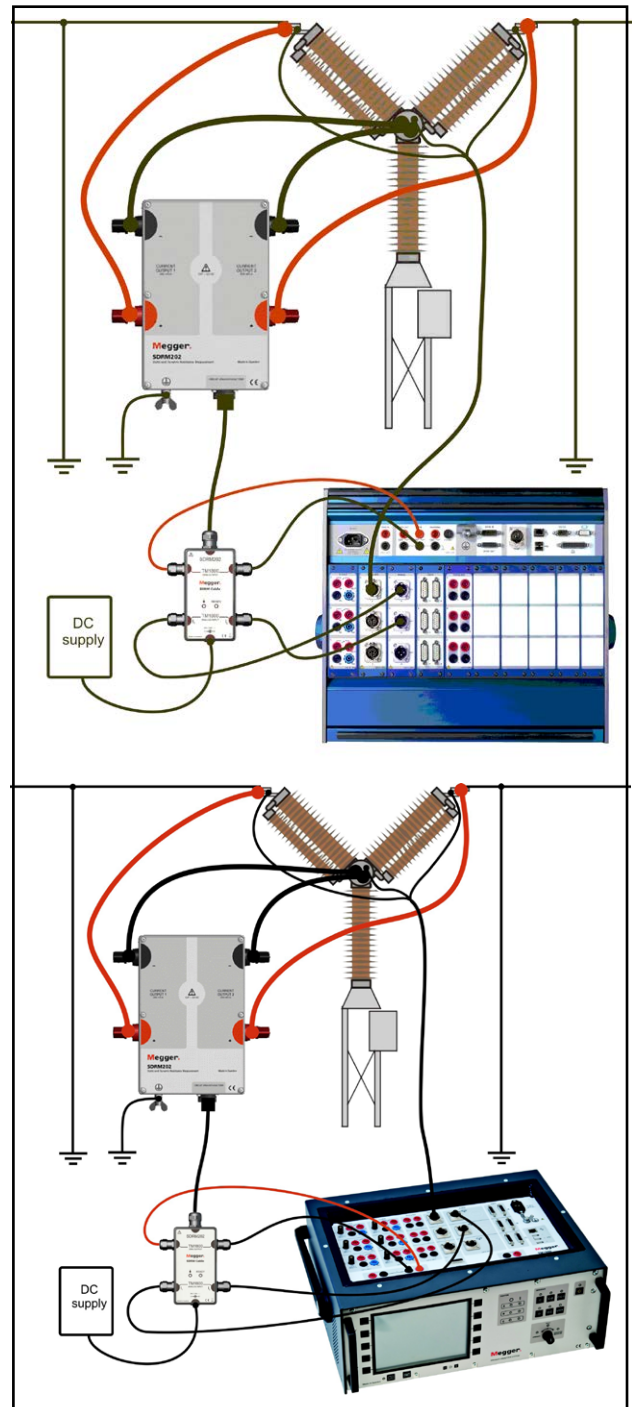

Fig. 4.2.1 Figure shows hook-up with SDRM202. The SDRM201 is hooked-up the same way but with only one channel.
- 1] Hook up the SDRM201/202 to the CB according to figure 4.2.1